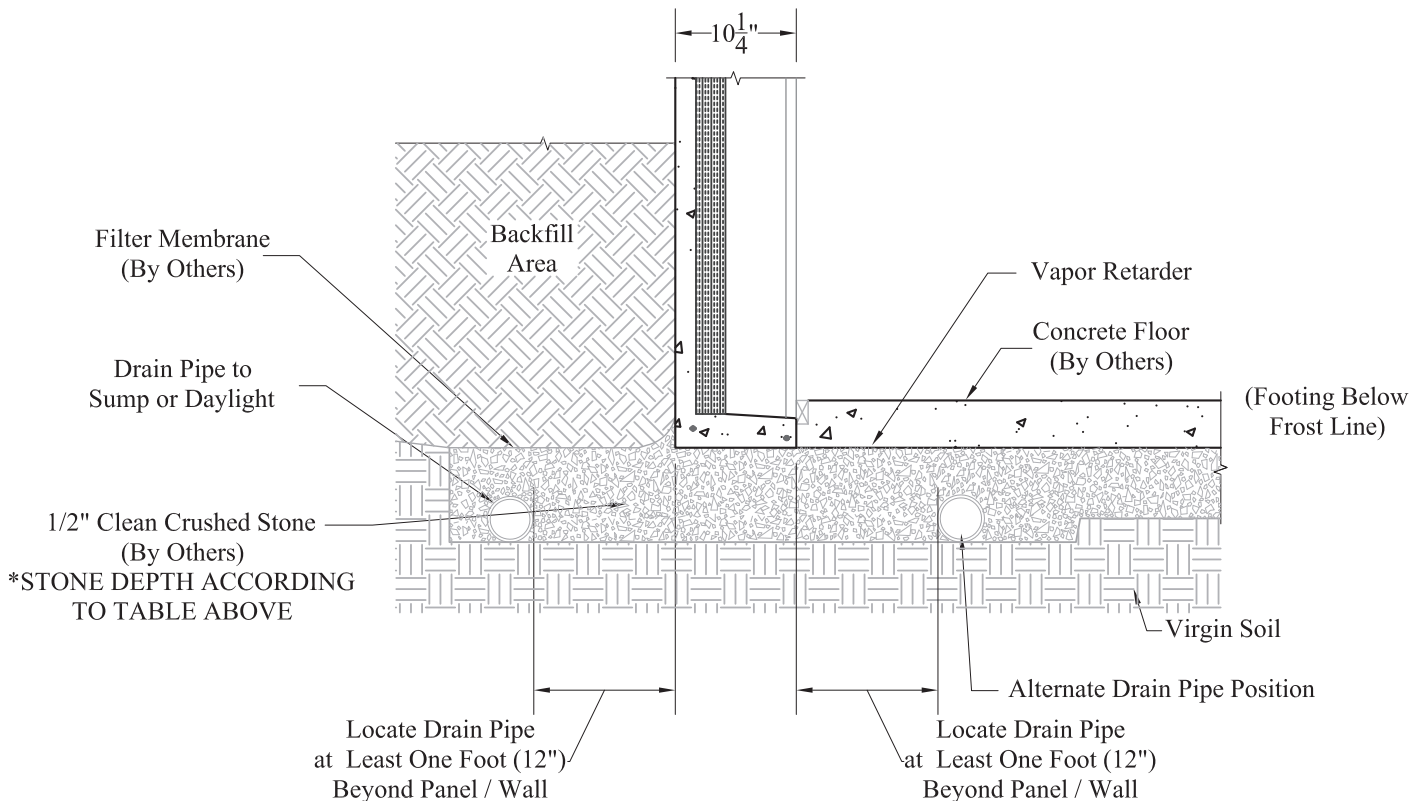

Figure 2
- One foot (12") dimension applies to both interior or exterior pipe location. (See Figure 2.)
- See Figure 2 on page 6.